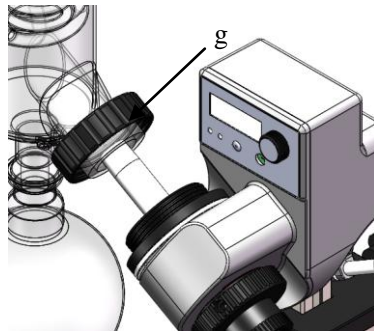

Fig. 17
- Mount the fixing device for the vertical condensation glass assembly (Fig. 17)